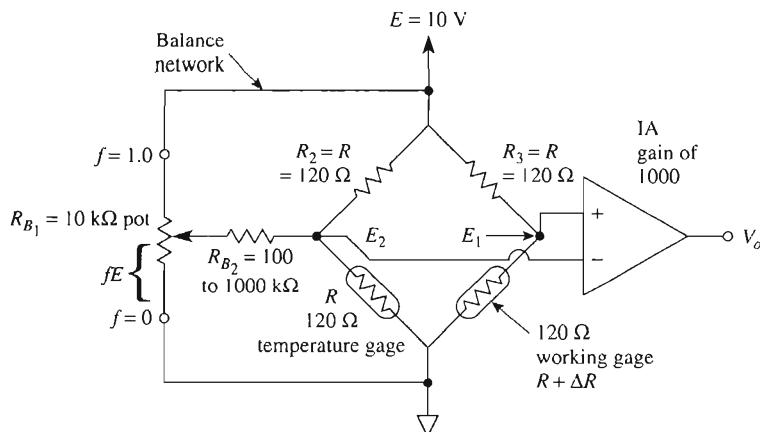
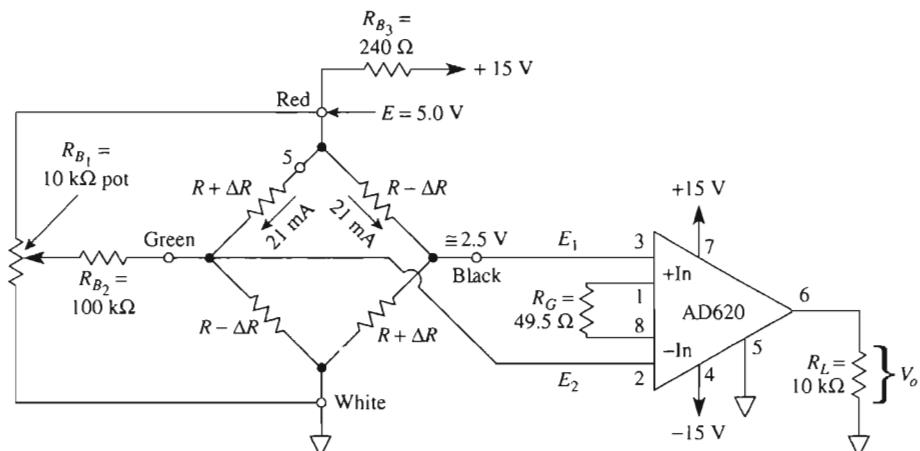

FIGURE 8-15 Improved balance network. R_{B_1} and R_{B_2} allow easy adjustment of V_o to 0 V.
FIGURE 8-17 The AD620 instrumentation amplifier is used to amplify the output of the four working strain gages [see Fig. 8-16(c)].
To analyze operation of the balance network in Fig. 8-15, assume that the R_2 and R_3 bridge resistors are reasonably equal, to within $\pm 1\%$. The strain gage's resistance should have equal resistances within several milliohms if the working gage is not under strain.
Of course, each bridge arrangement in Fig. 8-16 should be connected to a balance network (which, for clarity, was not shown) (see Fig. 8-15 and Section 8-8). Note that the output of the four-gage bridge is linear.
As shown in Fig. 8-17, an AD620 (Analog Devices) instrumentation amplifier (IA) is connected to a bridge arrangement of four strain gages. The gages are 120- Ω , SR4, foil-type strain gages. They are mounted on a steel bar in accordance with Fig. 8-16(c). Also the balance network of Fig. 8-15 is connected to the strain-gage bridge. R_{B_2} was selected, after experiment, as 100 k Ω . Strain gages were mounted in strict accordance with the manufacturer's instructions (BLH Electronics, Inc.). From the table in Fig. 8-9(b) R_G is selected for a gain of 1000.
The SCC of Fig. 8-17 is used to measure the strain resulting from deflection of a steel bar. V_o is measured to be 100 mV. Calculate (a) ΔR ; (b) $\Delta R/R$; (c) $\Delta L/L$. The gain is 1000. The gage factor is 2.0.